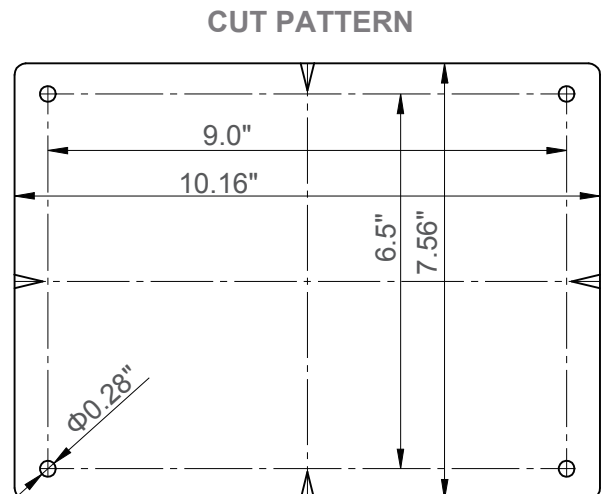

Figure 4
10. Cut installation hole on Wall Sheathing (by others) per the Cut Pattern. See Figure 4.